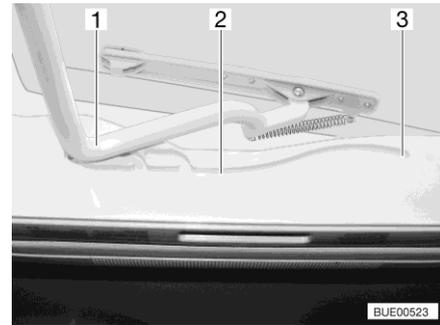

Fig. 108 Guide (Heki skylight)
- Pull the bar (Fig. 108,1) in the guides (Fig. 108,2) to the rearmost position (Fig. 108,3).
- Use both hands to push the bar (Fig. 108,1) slightly upwards.
- Pull the bar in the guides (Fig. 108,2) to the desired position.